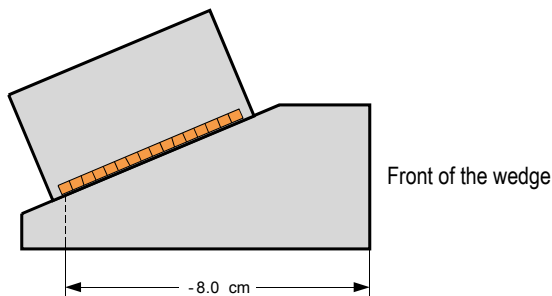

Figure 4-7 The primary offset measurement
- d) Select **Pri. offset**, and then enter the value of the primary offset, which is the distance between the front of the wedge and the center of the first probe element (see Figure 4-7 on page 99).